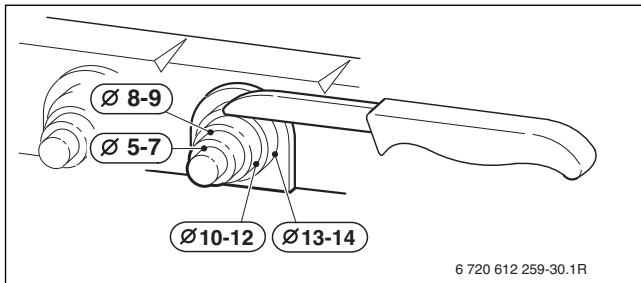

Fig. 29
2. Cut off the tapered cable entry to fit cable diameter required (→ Fig. 29).
3. Turn cable retaining screw (D) anti-clockwise. Run cable over the main crossbar and through the cable clamp (C), ensuring there is ample cable to reach the connectors. Turn cable clamping screw (D) clockwise to secure cable and replace clamp (C) into control panel.